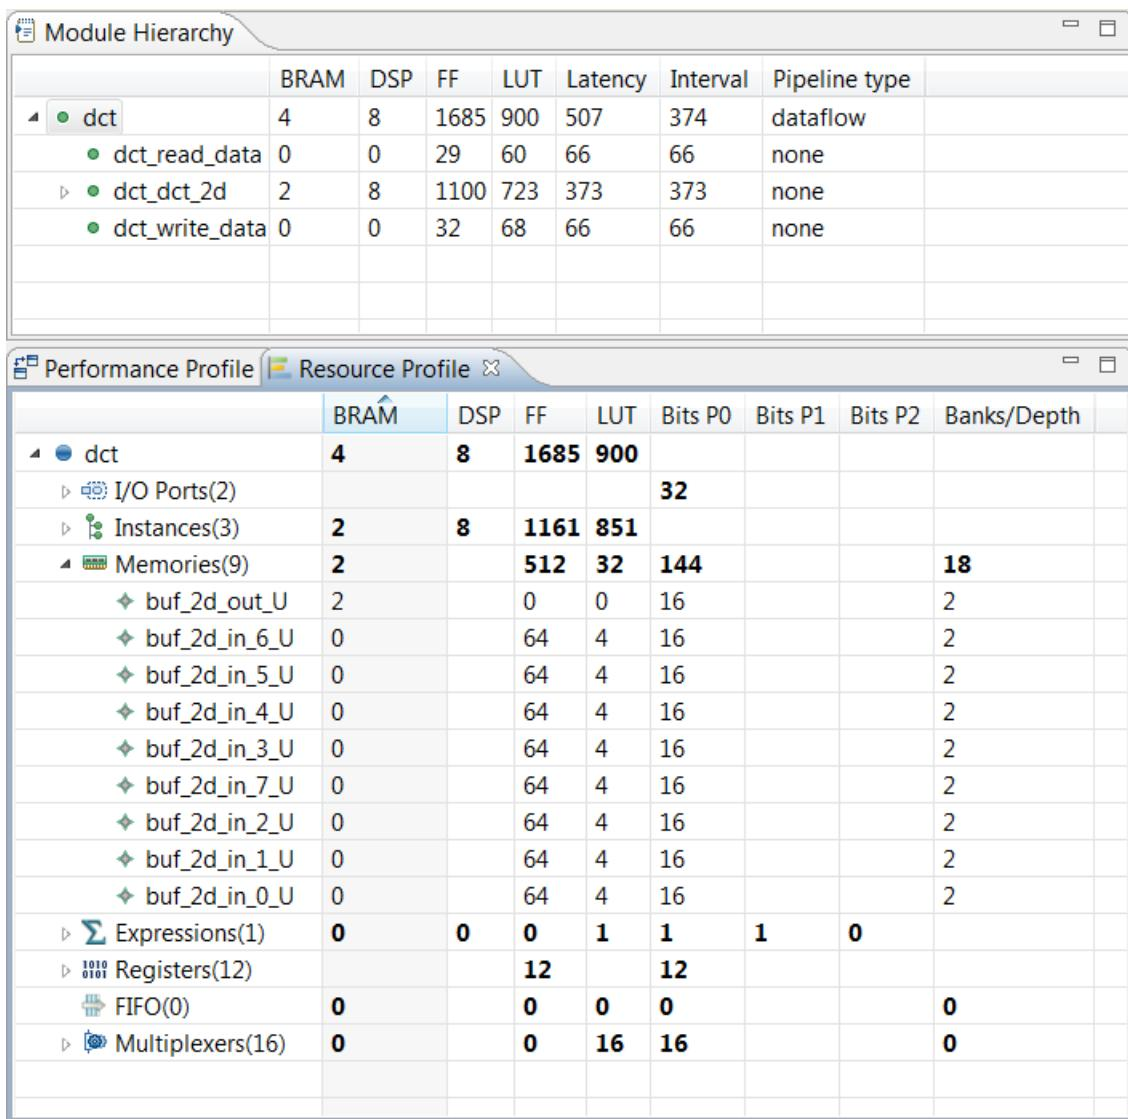

Figure 6-32: DCT Resource Profile
Because the `dct_2d` block is selected in the Module Hierarchy, the Performance Profile shows the details for this block. Figure 6-32 shows the interval is the same as the latency, so none of these blocks operate in parallel.
11. Expand the memories to see the view in Figure 6-32.